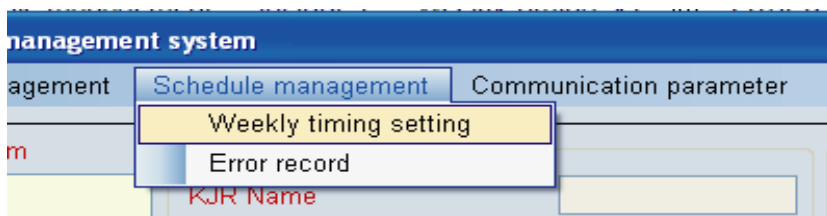

Fig.4-28
3) “Schedule management” includes: “Weekly timing setting” and “Error record”. See Fig. 4-28